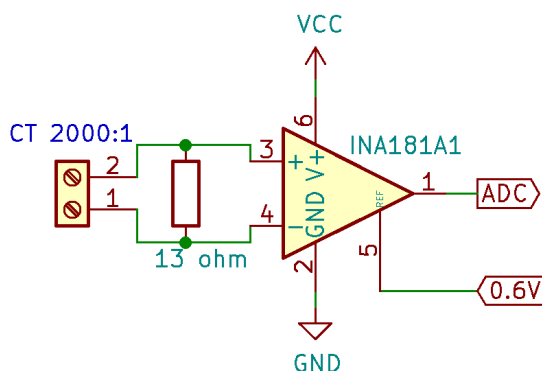

Figure 11: An example of a residual current detection circuit.
Suppose we want to turn off our load at channel 0 if the residual current is larger than 30 mA and have the circuit like Figure 11. The ratio of the current transformer (CT) is 2000:1, the resistor is 13 ohms, the gain factor of the op-amp is 20, and the ADC pin is 1. The command should be: